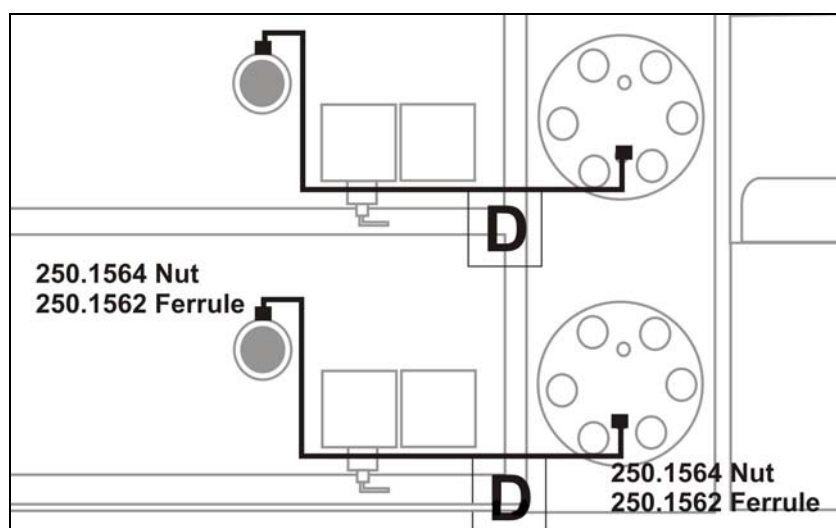

Figure 3. Assembly D: Connection between pump – pulse damper.
6. **Assemblies A and A''**, OR 100 degasser inlet assembly (p/n 180.0204 and 180.0203 and respectively): Two assemblies A and A'' are provided consisting of two pieces of FEP tubing and a 0.2 μm IFD in-line filter. Place the end of the FEP tubing A in the mobile phase bottle as depicted in figure 3.